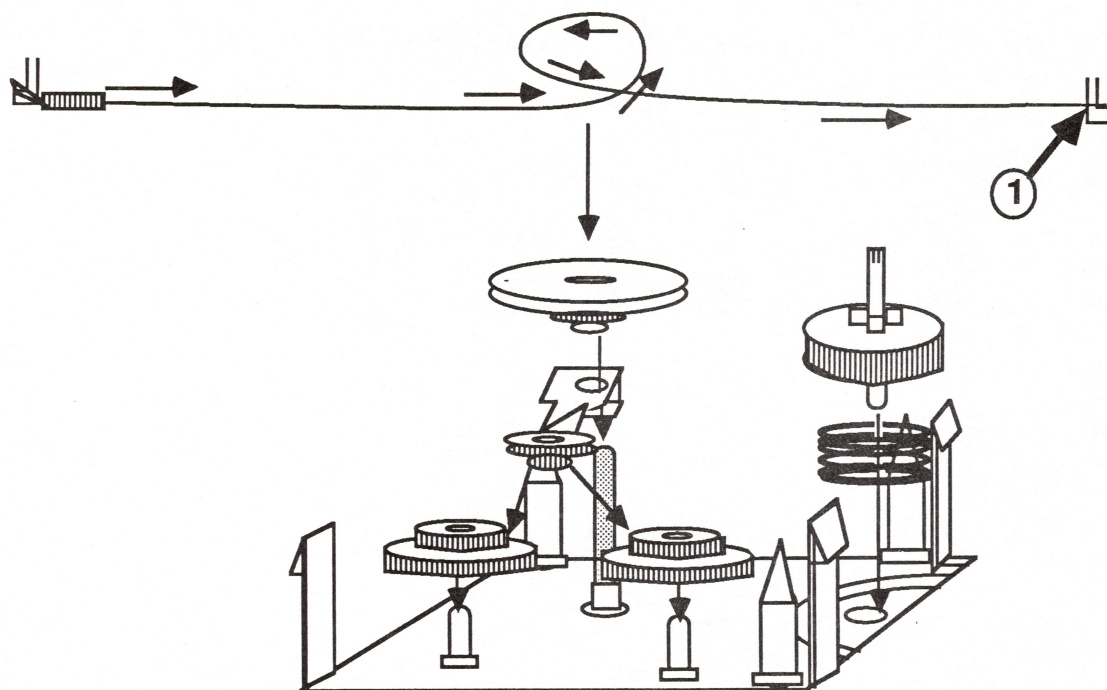

FIGURE 9
16. Disconnect and remove the ribbon wire (see Figure 9, #1).
1. Rewrap the ribbon wire as shown in Figure 9. Be sure the wire crosses at the front of the gear.